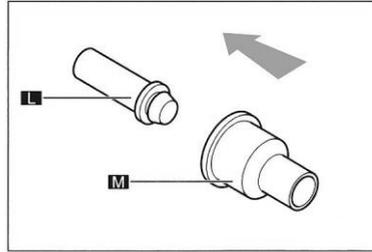

Fig. 30
1. In order to assemble the drain tap, perform steps shown in Fig. 30 through 25 (section 6.2.5) in reverse order.
2. To fix the lever (F), and rod (D) press from the internal side until guides are out, and then insert the lever (F) and slowly release the rod (D).